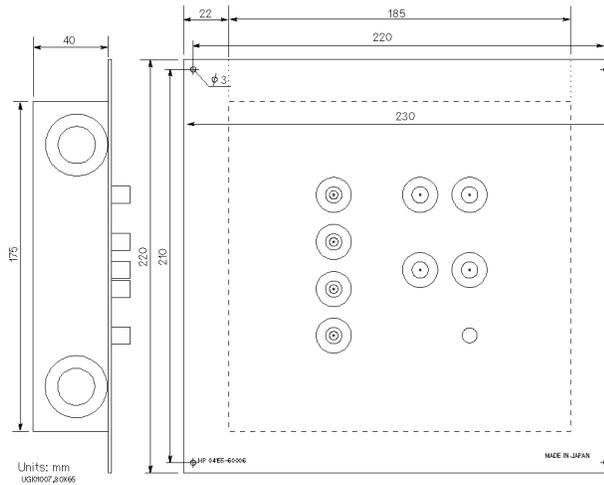
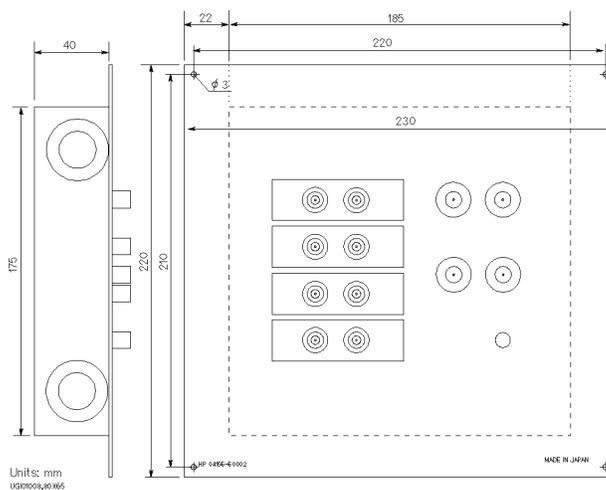

Figure 2.2.
Figure 2-3.
2. Create proper openings and screw holes on your shielding box that match the size of connector plate. See Figure 2-2, Figure 2-3, or Figure 2-4 for dimensions of the connector plates.